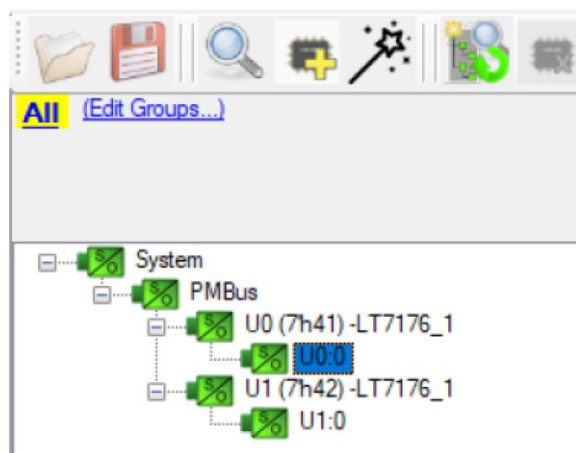

Figure 9. LtpowerPlay GUI System Tree
2. Launch the LTpowerPlay GUI. The GUI automatically identifies the EVAL-LT7176P-1-AZ. The system tree on the left-hand side appears as shown in Figure 9.